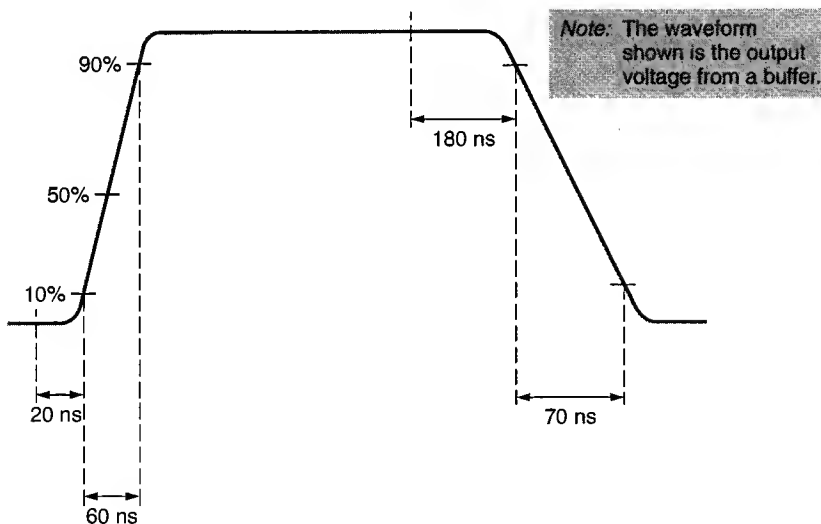

FIGURE 19.53
19. Determine the values of t_d , t_r , t_s , and t_f for the waveform in Figure 19.53.